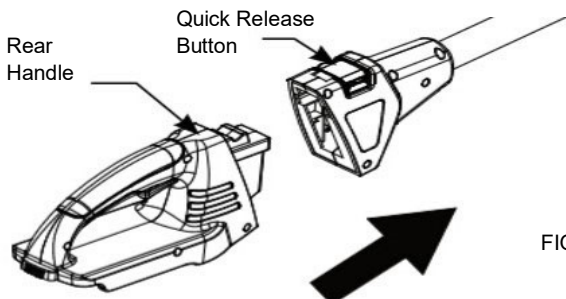

FIG. 3
3. Insert the rear handle into the end of telescopic handle. (Fig. 3) Press down the quick release button. Ensure the release button snaps firmly into position to lock the handle securely.